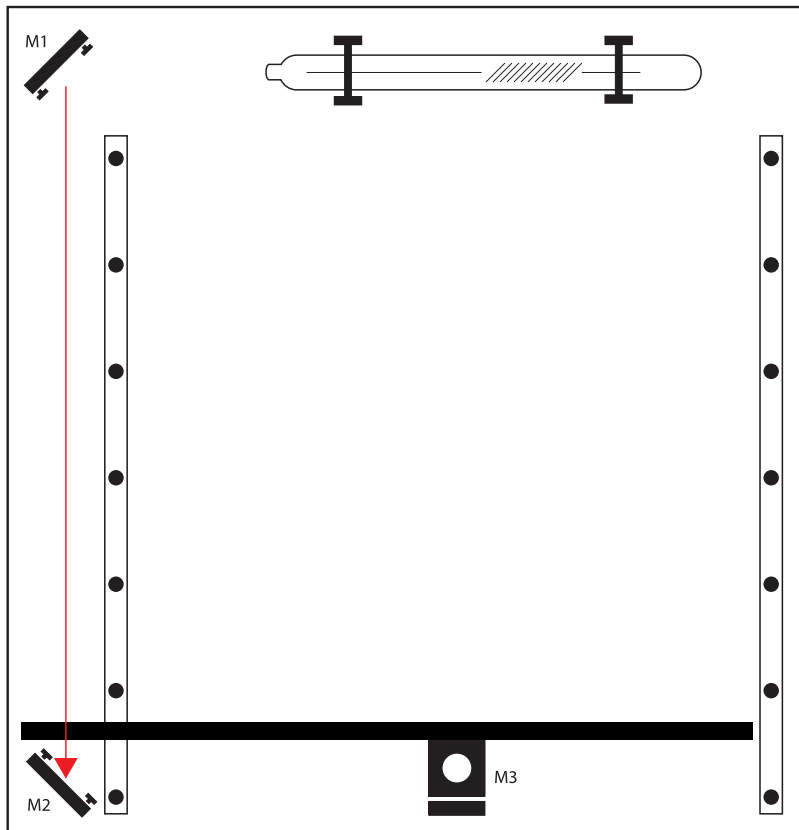

Figure 4.8
- 3. Position X-Gantry “Far”:** Jog the x-gantry to the lowest position (as shown in Figure 4.8).
8. Re-Position X-Gantry back to “Far”: Jog the x-gantry to the far position where you did the first test fire. (as shown in Figure 4.8).